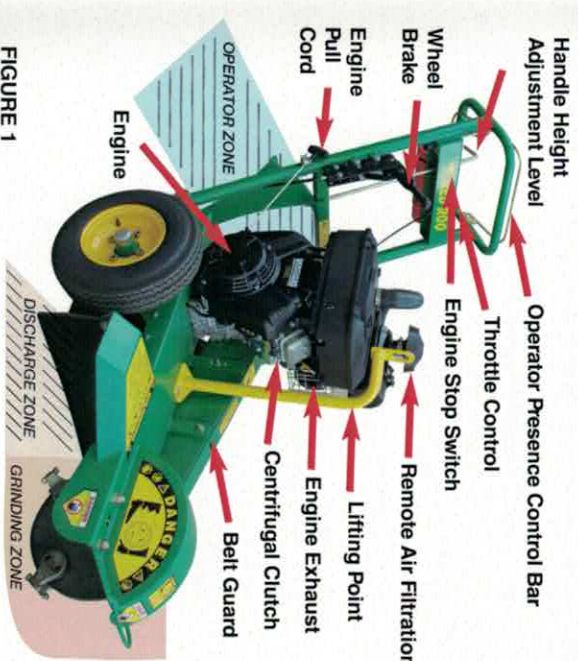

FIGURE 1
- 4) **IGNITION:** Must be in "ON" position to start. "OFF" to stop. Hold/Depress down the operator presence (OPC) bar before starting/cranking the engine. The OPC bar is designed as a safety feature. The engine will not start or operate without holding down/depressing the OPC bar. See figure 1. **NEVER DISABLE THIS SAFETY FEATURE.**
**WARNING!** – In case of difficulty, release the Operator Presence Control Bar. This action will stop the engine. See figure 1.